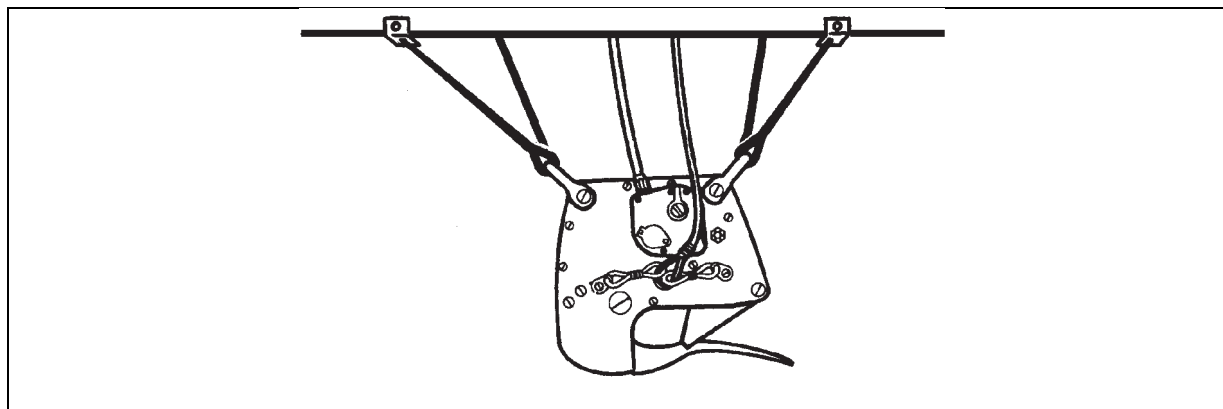

Figure 2-7. Cable Suspended System
- The cargo hooks are the same but are mounted differently to the aircraft. Four cables extend from the fuselage attaching points to the cargo hook in the cable suspended system (figure 2-7).